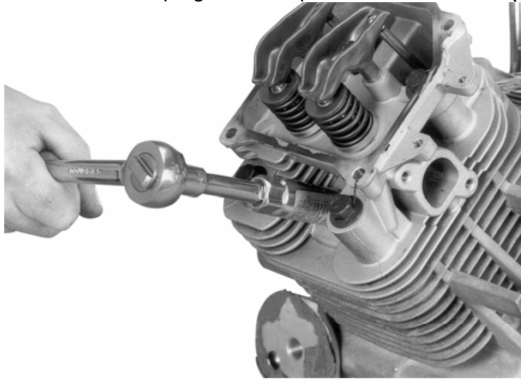

Figure 11-48. Install New Spark Plugs and Tighten to Torque Specified.
3. Install new plugs and torque to **24.4-29.8 N·m (18-22 ft. lb.)**. See Figure 11-48.